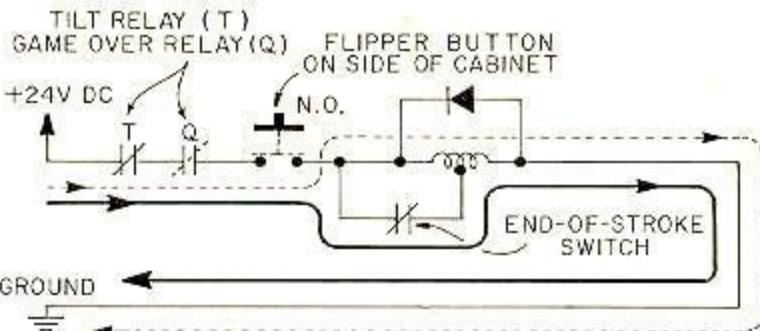

FIGURE 1.
Electrical flipper operation is shown in Figure 1. All contacts are shown in attract mode positions. During game play, the Game Over Relay (Q)\* energizes and closes the Q contact (dashed lines). When a player presses the flipper button, the 24 VDC voltage generates a current that passes through the end-of-stroke switch and the low resistance windings of the flipper coil (direction indicated by dark line). The plunger is pulled into the coil core with the end-of-stroke switch contacts opening approximately 1/16" before full plunger stroke. The 24 VDC is now applied to the full winding, increasing the current (direction indicated by dashed line). This protects the coil from burn-out when the flippers stay energized. Poor flipper power or a high burn-out rate for coils may result if the end-of-stroke switch is not adjusted as mentioned above.